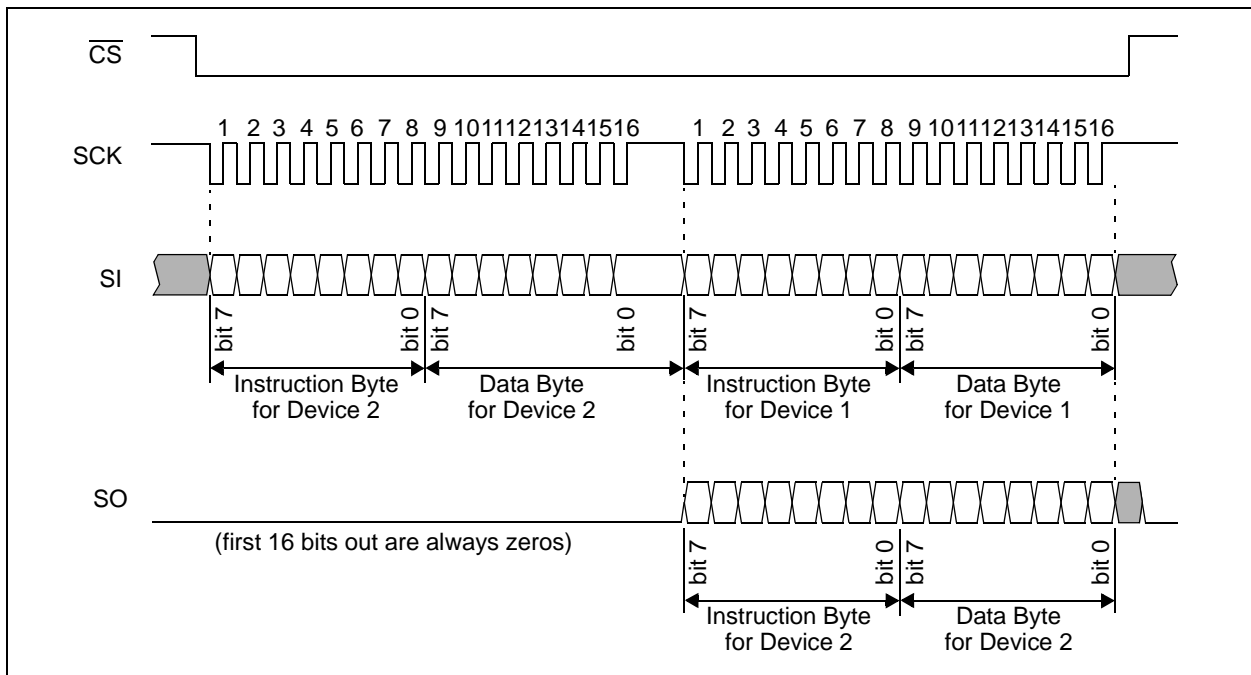

**FIGURE 5-3:** Daisy Chain Configuration.
Multiple devices can be connected in a daisy chain configuration by connecting the SO pin from one device to the SI pin on the next device and using common SCK and  $\overline{CS}$  lines (Figure 5-3). This approach reduces PCB layout complexity.
The example in Figure 5-3 shows a daisy chain configuration with two devices, although any number of devices can be configured this way. The MCP6S21 and MCP6S22 can only be used at the far end of the daisy chain because they do not have a serial data out (SO) pin. As shown in Figure 5-4 and Figure 5-5, both SI and SO data are sent in 16-bit (2 byte) words. These devices abort any command that is not a multiple of 16 bits.